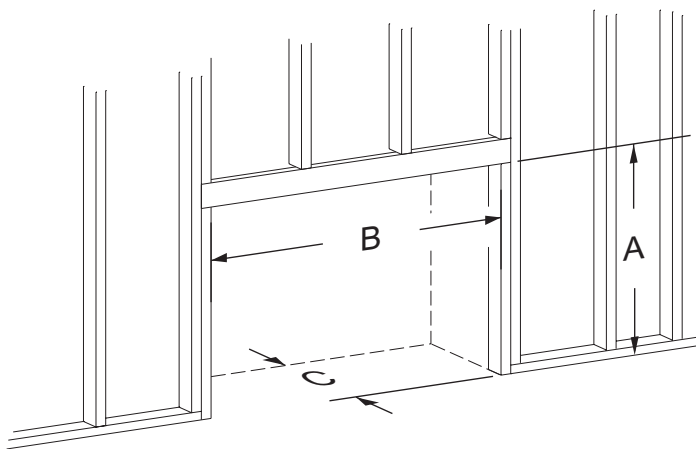

Figure 46 - Rough Opening for Installing in Wall
- Use dimensions shown in **Figure 46** for a conventional rough opening.
TABLE 4 - FRAMING DIMENSIONS (in inches) FOR FIGURES 46 - 48